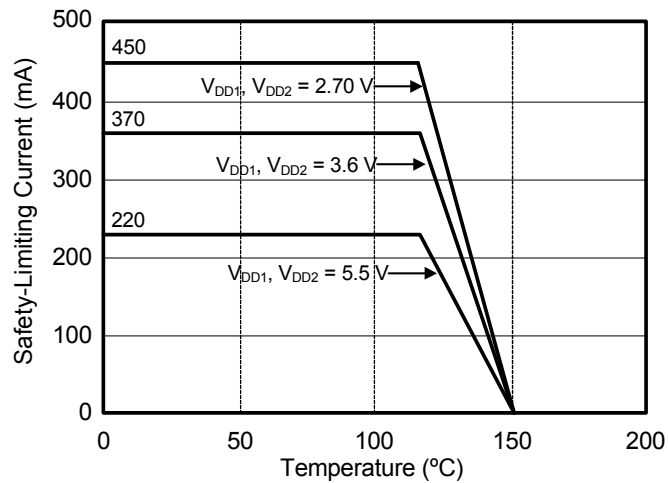

Figure 3. (WB SOIC-16) Thermal Derating Curve, Dependence of Safety Limiting Values with Case Temperature per DIN EN 60747-5-2
1. Maximum value allowed in the event of a failure; also see the thermal derating curve in Figure 3.